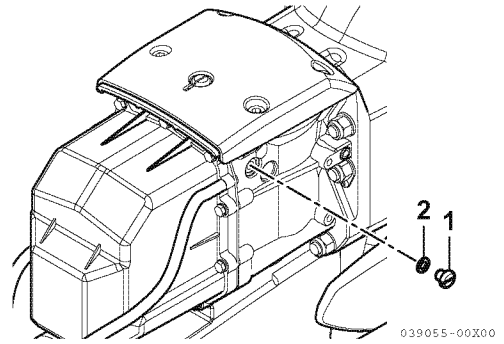

Figure 1
1. Remove the oil vent plug (1, **Figure 1**) and gasket (2, **Figure 1**).